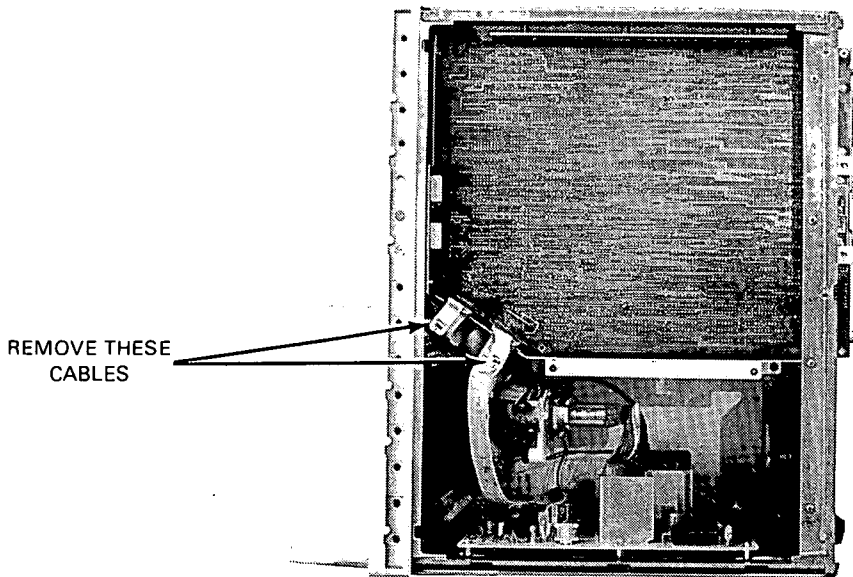

Figure 2.
- 3) Disconnect two cables at the front of the CPU board (A3, see figure 2).